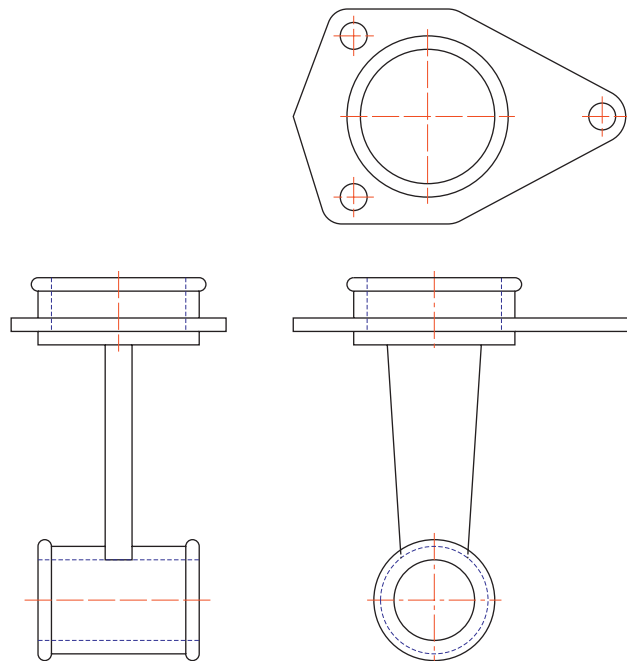

Fig. 10.12 Example – External References – original drawing
1. Construct the three-view orthographic drawing Fig. 10.12. Dimensions for this drawing will be found in Fig. 15.52. Save the drawing to a suitable file name.